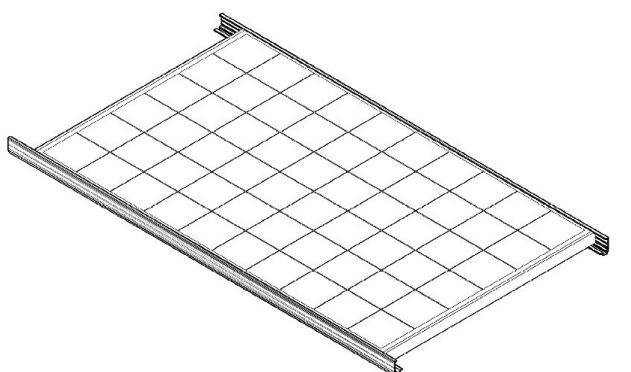

Figure 3
**Insertion system:** Insert the whole Module into the rail, as shown in Figure 3.